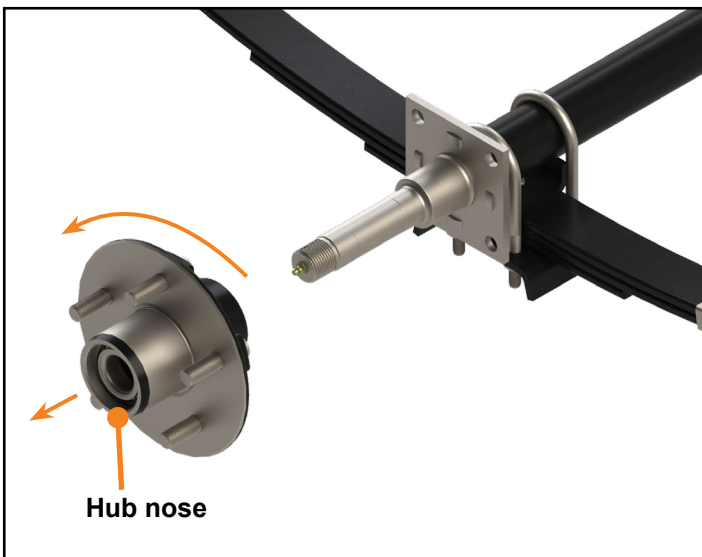

Fig.7
- B. To prevent outer bearing cone falling freely from the assembly, place one hand on the back side outer rim of the hub and the other hand over the outside of the hub nose (Fig. 7) to cover the bearing cone.
- C. Slightly turn the hub while pulling to free the hub from the spindle (Fig. 7).